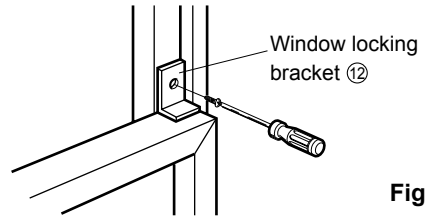

Fig. 9
- 12 Attach the Window Locking Bracket ⑫ with a Type C screw ⑦. (See Fig. 9)